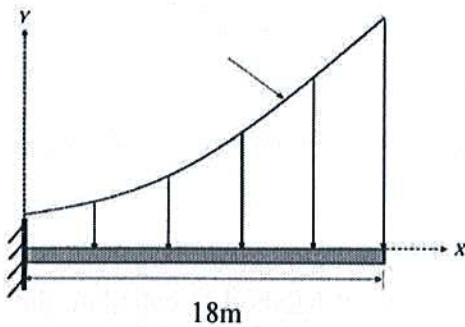

Fig. 1
5. For the cantilever beam, calculate the upward reaction force (for **one-third** of the span starting from the left) using the following equation: $y = 3x^2 + 2e^x + 5$, where, x is the distance from the left and y is the reaction (shown in Fig. 1). Use the following methods:
1. Calculate the equivalent polar moments of inertia (J_{eq}) for the cross-sections shown in Figs. 1(a)-(c) by centerline dimensions